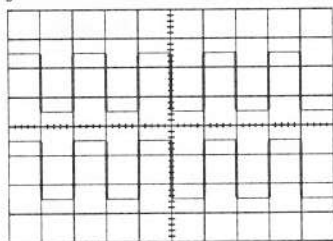

Figure 4-4
Now, apply the calibrator signal to the vertical input terminal of CH2 with the probe as is the case for CH1. Set the AC-GND-DC switch to the AC state. Adjust vertical POSITION knobs (9) and (20) so that both channel signals are displayed as shown in Figure 4-4.